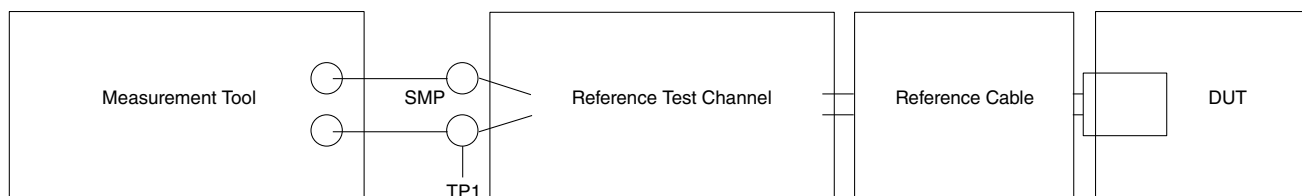

Figure 25. Transmit normative setup
1. Measured at compliance TP1. See Figure 25 for details.